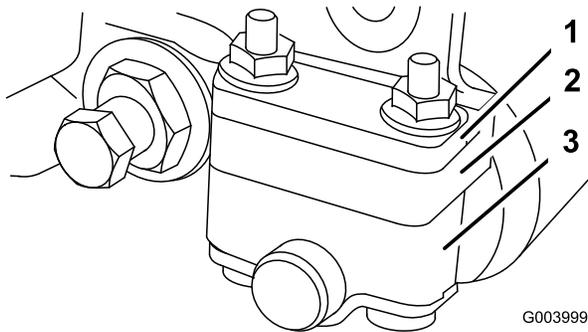
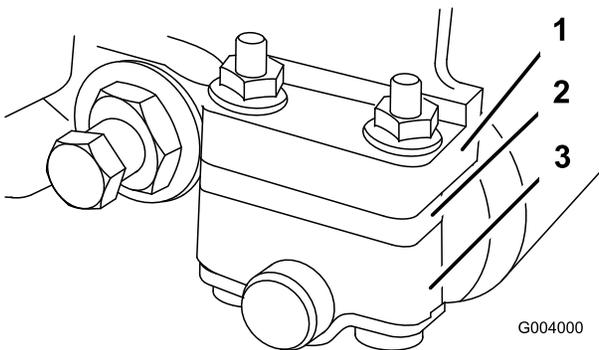

Figure 55
Figure 56
1. Adjust the rear roller brackets to the low or high position depending on desired height of cut range (Figure 55 and Figure 56).
- Position the spacer below the sideplate mounting flange when height of cut settings range from 1/8" to 1" (Figure 56).